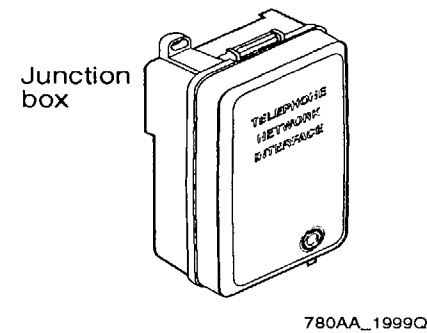

Figure 4. Junction box
- One junction box (Figure 4).